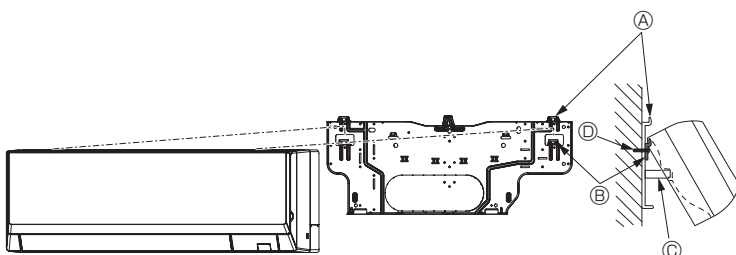

Fig. 3-12
- When the indoor unit cannot be hanged and lifted up with the regular hook (the dimension of 2.1. Ⓢ (the clearance between the ceiling and the unit) is 75 mm or less), hang the unit on the lower hook for left piping. (Fig. 3-12)
(Fig. 3-12)